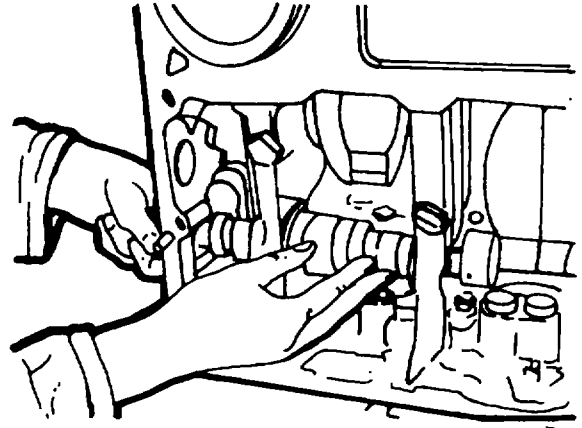

Figure 5-33. Installing Camshaft in Bearing
36. Insert the tappets. Oil the camshaft journals. Install the camshaft in the bearing bores (figure 5-33).